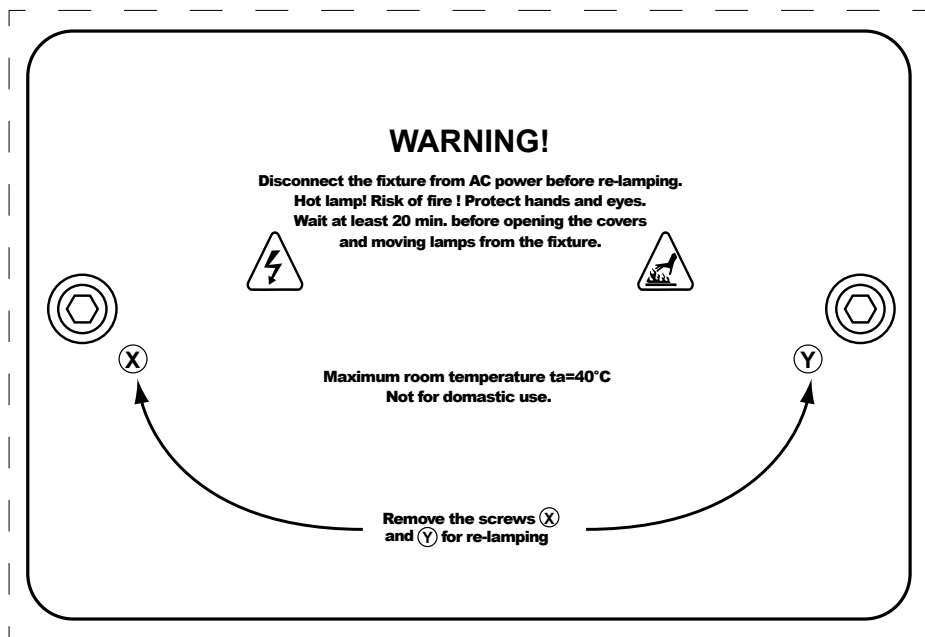

Fig.4
1. Disconnect the power plug the unit, Unscrew the two screws X, Y (see fig.4), open the lamp cover, turn it to the position as the diagram shown.